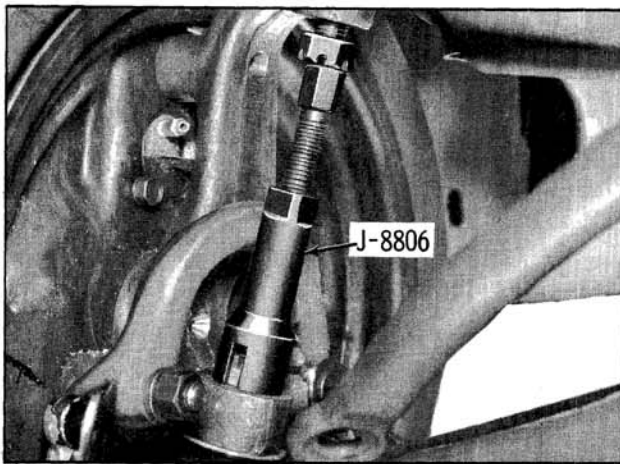

Fig. 9-30 Loosening Upper Ball Joint
5. Disconnect the control arm ball joints from the steering knuckle as outlined under CONTROL ARM REMOVAL. (Fig. 9-30)